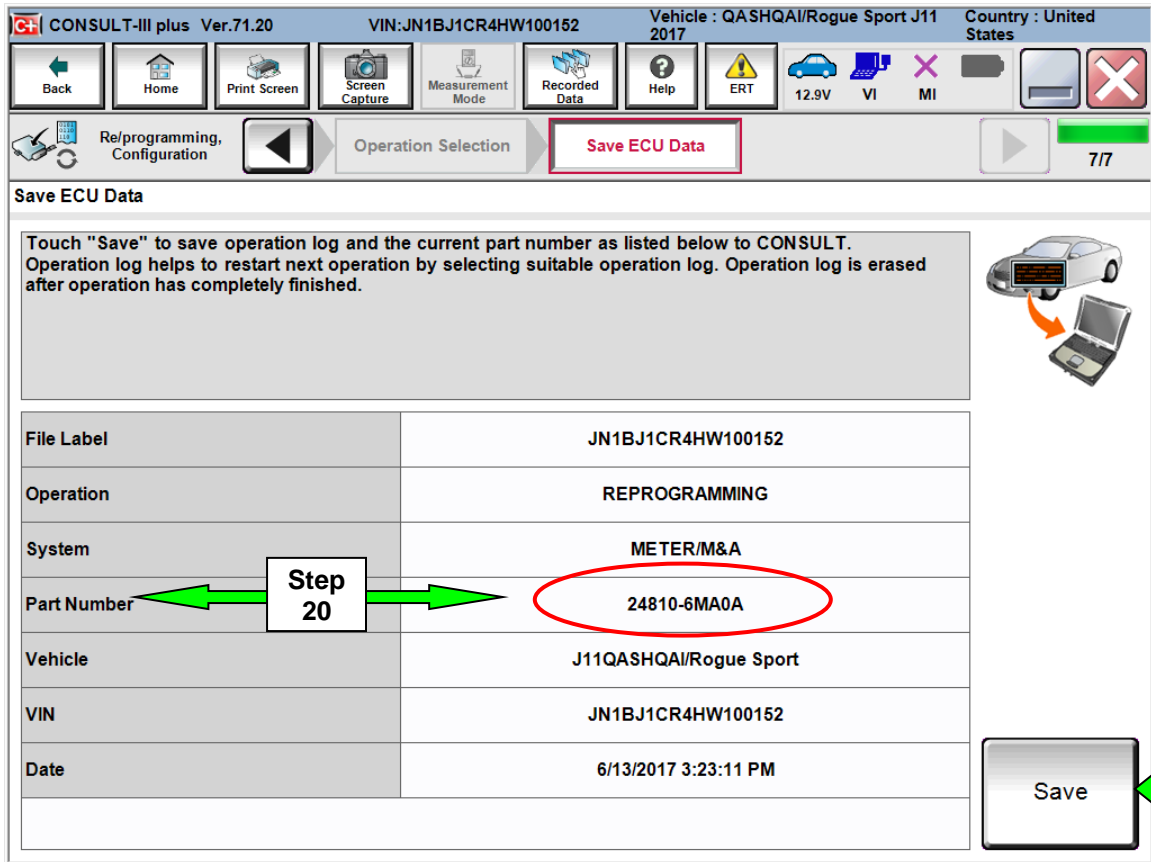

Figure 9
20. Find the Meter **Part Number** (see Figure 9) and verify it is **24810-6MA0A** for **USA Vehicles**.